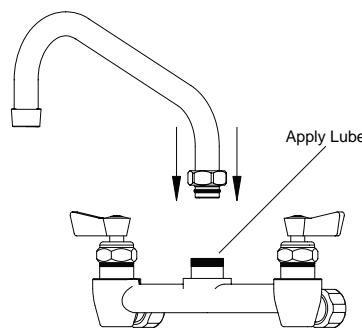

Fig.3 ( Installation of new Swing Spout )
4. Lightly lubricate the inside area of the faucet body ( see Fig.3), where the spout goes.Carefully align spout with faucet body so that when the spout slides into the faucet body, it will go in straight as not to cause the orings to bind and come of of the spout grooves. Firmly press the spout into the faucet body. Tighten spout nut firmly, with a wrench.